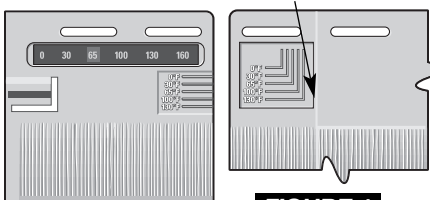
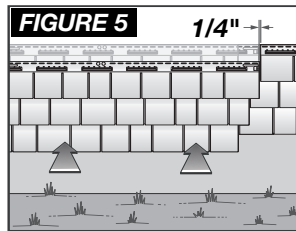

FIGURE 1
FIGURE 5
Each panel has a PanelThermometer™ that displays panel temperature and indicator lines that serve as guides for proper spacing between the panels. The PanelThermometer is located on the upper right-hand corner of the panel; the indicator lines are on the upper left-hand corner (figure 1).
- 4) Install the next panel by positioning it below the starter strip and next to the first panel. Push in and up to lock the panel into the starter strip and the side tabs of the first panel, as shown in figure 5. Space the second panel according to the panel temperature at the corresponding temperature indicator lines (figure 1).